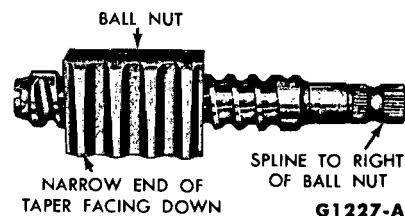

FIG. 20—Positioning Ball Nut—Typical
4. Swab the inside diameter of the ball nut and the outside diameter of the worm with gear lubricant C3AZ-19578-A prior to assembly. Lay the steering shaft on a bench as shown in Fig. 20. After positioning the shaft, turn the ball nut to place the guide holes in the up position. Align